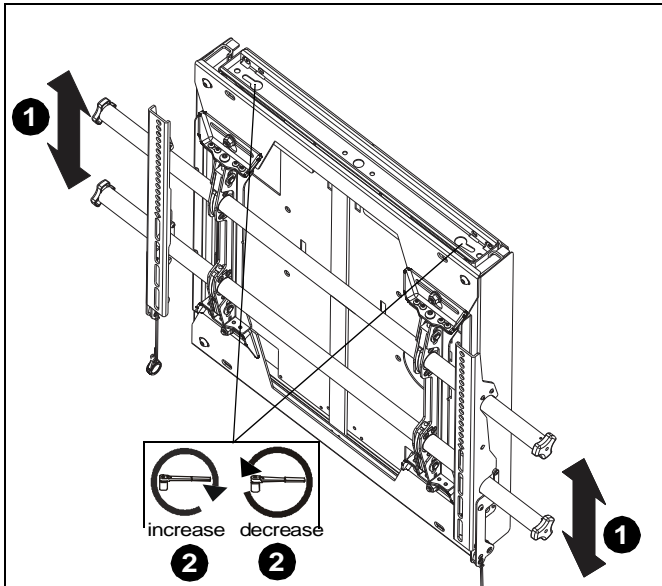

Figure 16
1. Height may be adjusted up or down by manually adjusting height of head assembly. (See Figure 16)
2. Use 1/2" socket wrench to increase or decrease tension. Turn screw clockwise to increase tension and counterclockwise to decrease tension. (See Figure 16)